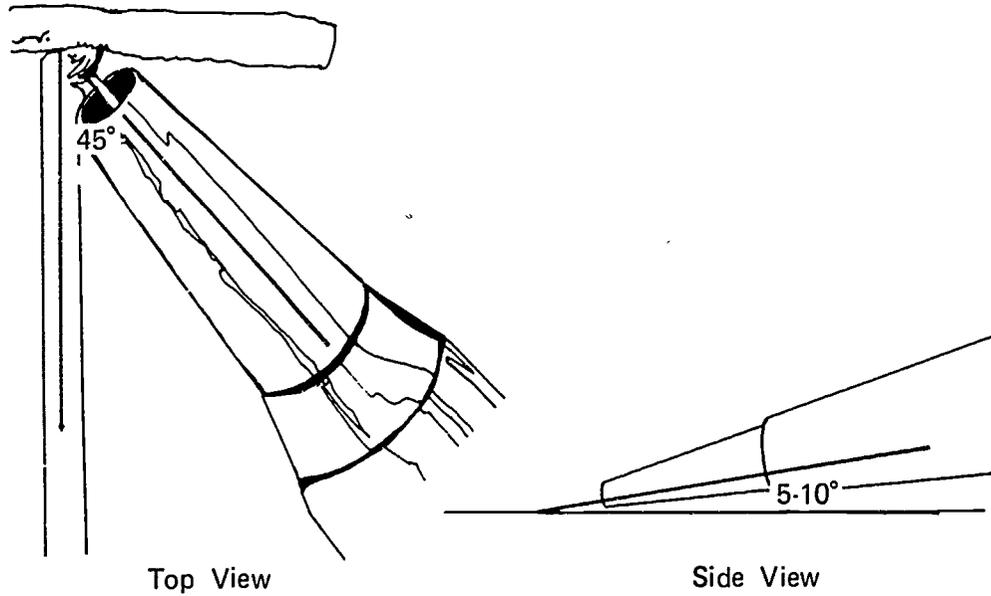

FIGURE 4
- F. Position gun at 45° side angle and 5° - 10° down from horizontal (Figure 4)